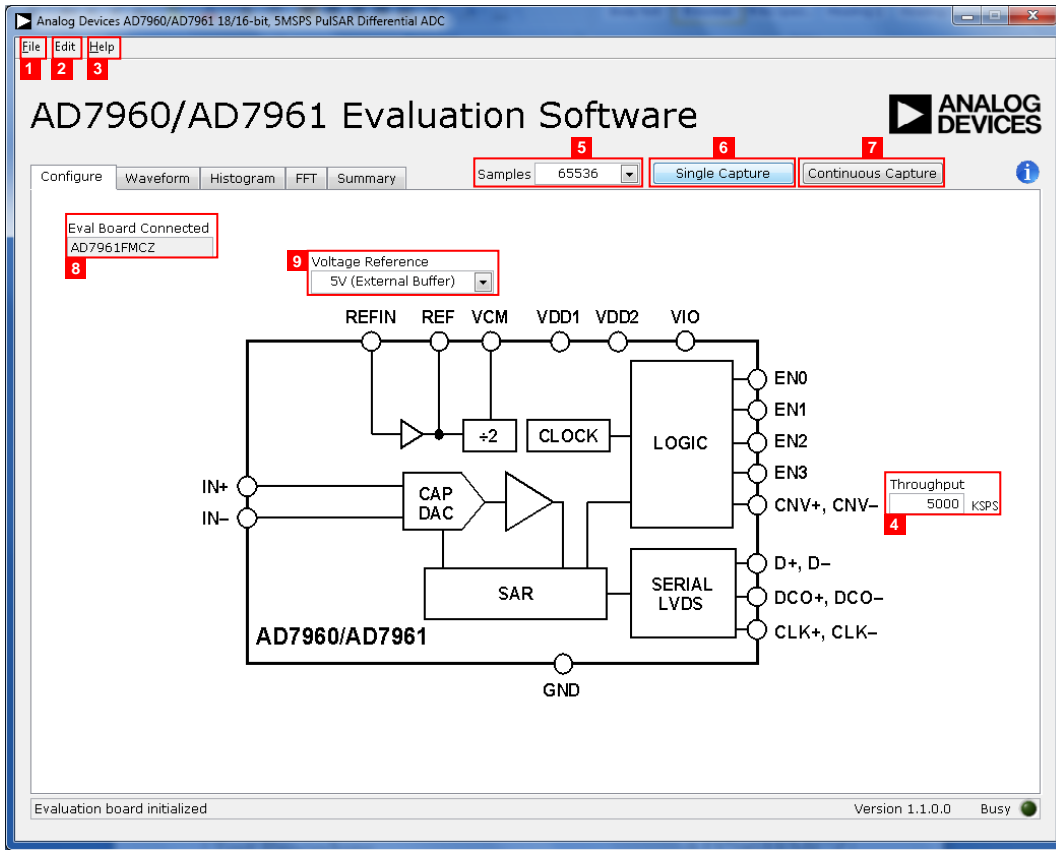

Figure 19. Setup Screen
1. From the Start menu, select Programs>Analog Devices>AD7960_61 Evaluation Software. The main window of the software then displays (see Figure 19). If the evaluation system is not connected to the USB port via the EVAL-SDP-CH1Z when the software is launched, a connectivity error displays (see Figure 17).
This section describes the full software operation and all windows that appear. When the software is launched, the panel opens and the software searches for hardware connected to the PC. The user software panel launches as shown in Figure 19. The labels listed in this section correspond to the numbered labels in Figure 19.
The **File** menu, labeled 1 in Figure 19, offers the choice to